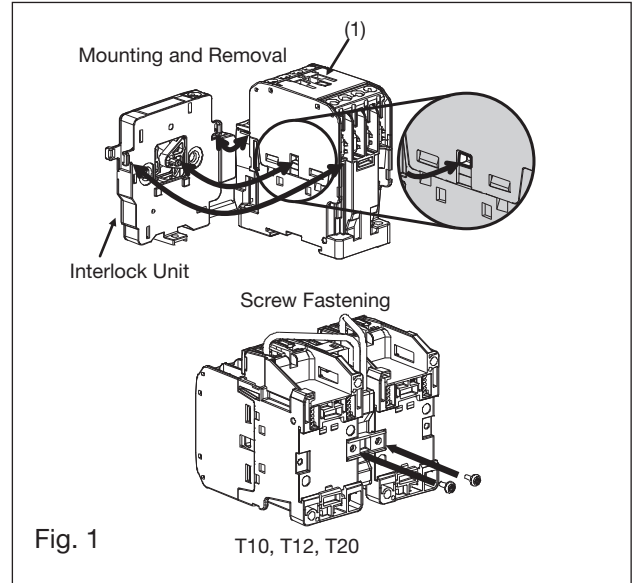

Fig. 1
● UT-ML11(BC) [See Fig. 1]
- (1) Make sure that the combination of the interlock unit and contactor is correct.
- (2) Drill the mounting holes according to the hole dimensions.
- (3) Mount interlock units on both contactors as shown in Figure 1.
- (4) Fix the contactors on the mounting surface with screws.
- (5) For the reversible type, directly apply mutual electrical interlock to the contactor.